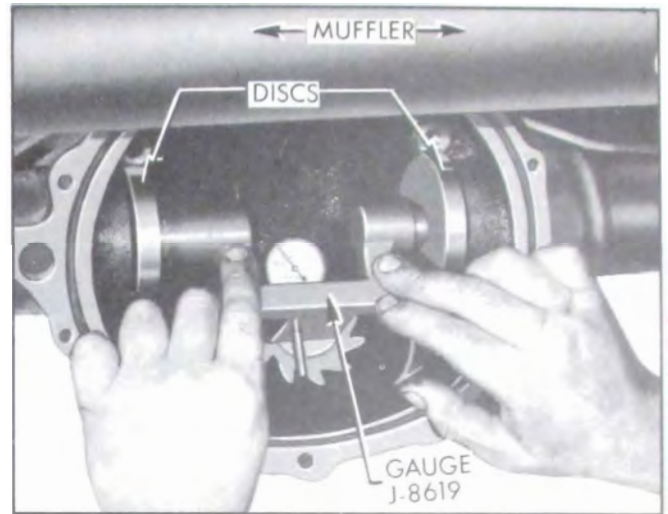

Figure 6-31—Checking Pinion Depth
button has a good contact with gauging tooth of pinion. See Figure 6-31.
7. Recheck pinion setting with gauge. See Figure 6-31. Setting for new pinion must be within .0015" of setting marked on pinion. Setting for used pinion should be within .0015" of original setting (as checked before disassembly).